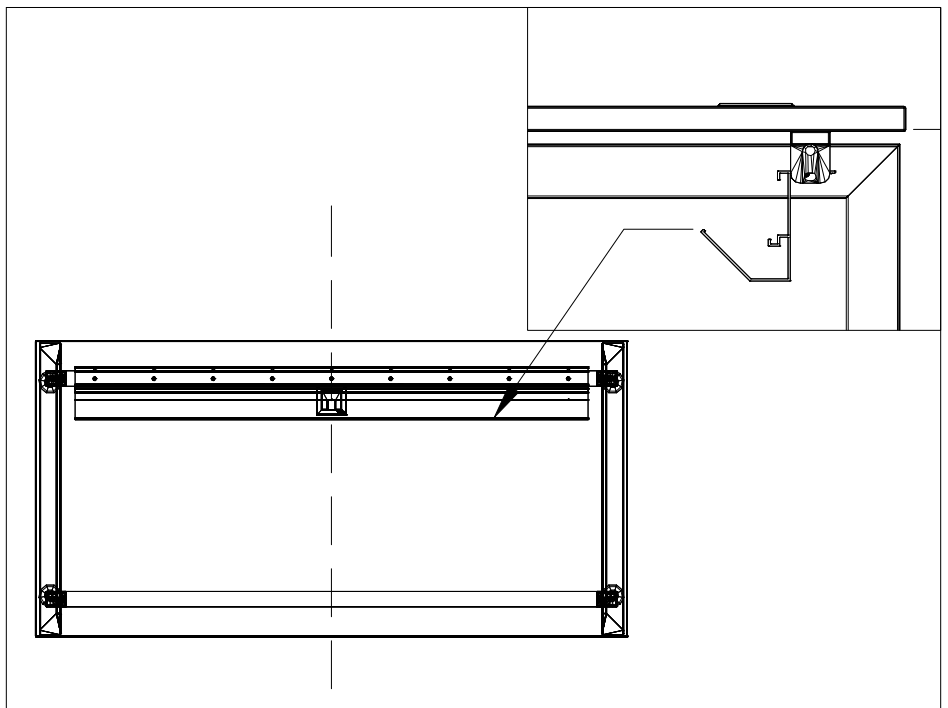

FIGURE 1
2. Position the worksurface wire management trough at the specified location (Figure 1). Use #10 1" oval head screws to attach the wire management trough to the underside of the reinforcement bar, (Figure 2).